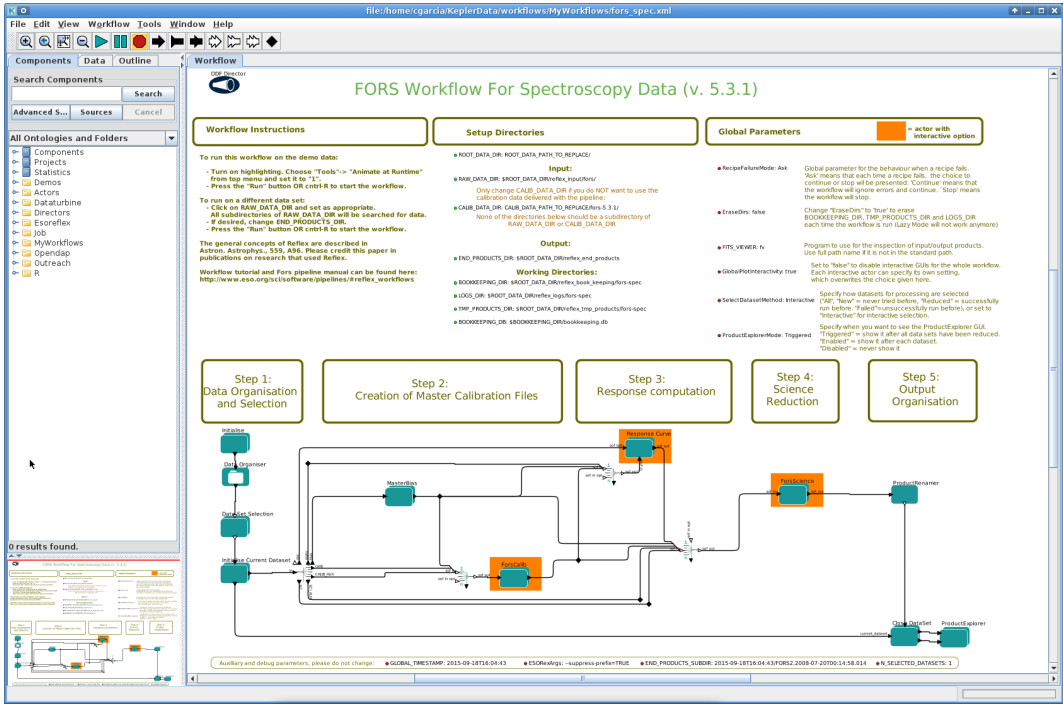

Figure 4.2: FORS2 workflow general layout.
2. Now open the FORS2 workflow by clicking on File -> Open File, selecting first fors-5.3.3 and then the file fors\_spec.xml in the file browser. You will be presented with the workflow canvas shown in Figure 4.2. Note that the workflow will appear as a canvas in a new window.